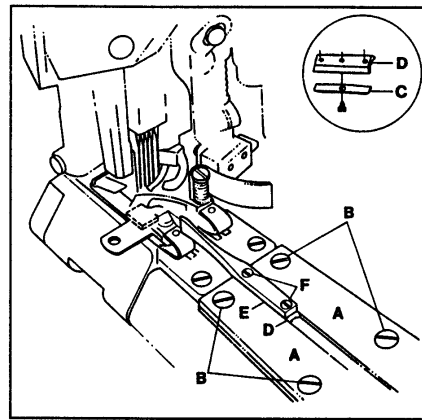

FIG. 38
Attach gibs (A, Fig. 38) to the cylinder cover but do not tighten screws (B); leave them snug for further adjustment. Fasten spring (C, Fig. 38 inset) to the bottom of slide block (D) and insert between gibs (A). Attach lap former (E) to slide block (D) with screws (F) and position it in the center of the presser foot. Position the slide block so it has a snug (but not tight) fit the entire length of the gibs. Tighten screws (B).